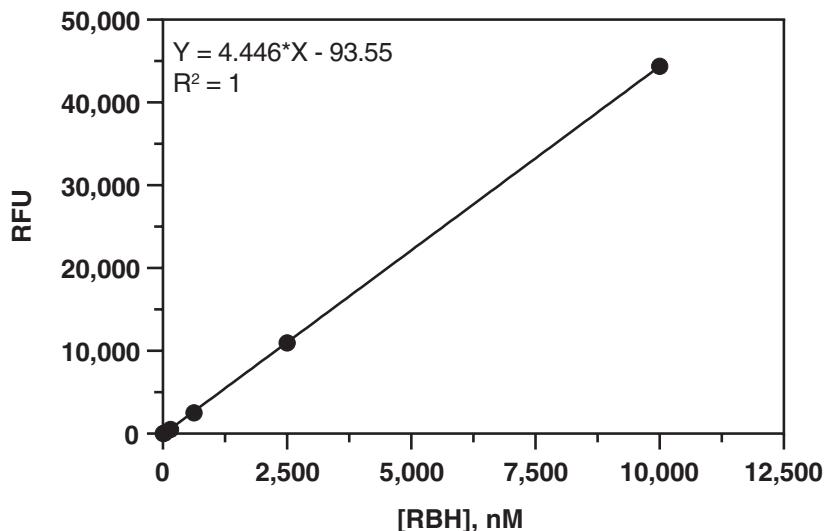

Figure 4. Typical standard curve
3. Plot the corrected fluorescence of the standards as a function of the final concentration of RBH from Figure 4. See Figure 4 for a typical standard curve.